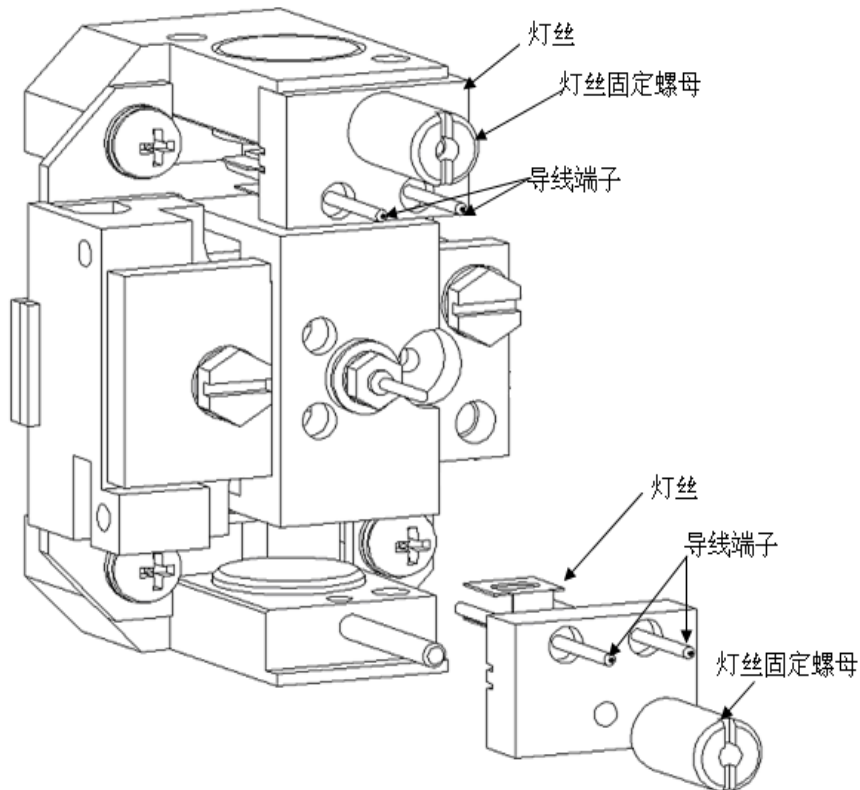

Figure 2-10 Ion source assembly
4. Loosen the filament lock nut and pull out the filament (see Figure 2-10).